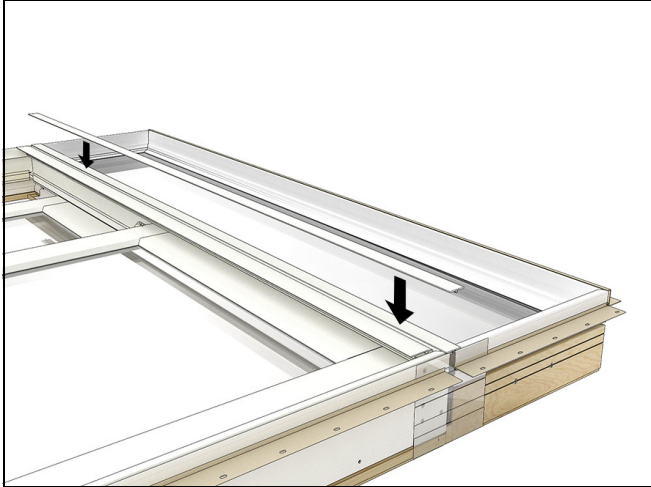

Figure 19
19. Ensure exterior surfaces of frames are clean and dry for optimum tape adhesion. Dog ear both pieces of backing on the tape on the exterior cover on one end. Seat exterior mull cover into the mull weather strip, ensuring the cover is fully seated and the tape is in full contact with window frame surface. See Figure 19. Completely remove backing from tape on exterior mull cover. Apply even pressure along the entire length of exterior cover ensuring tape is fully adhered.